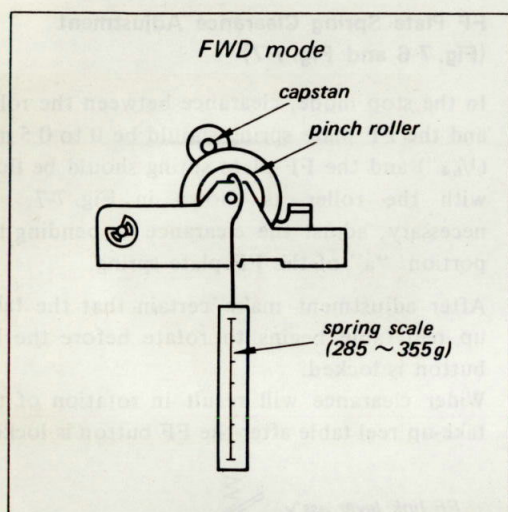

Fig. 7-8.
2. In the forward mode, attach a spring scale to the pinch roller as shown in Fig. 7-8 and pull the spring scale to separate the pinch roller from the capstan shaft.